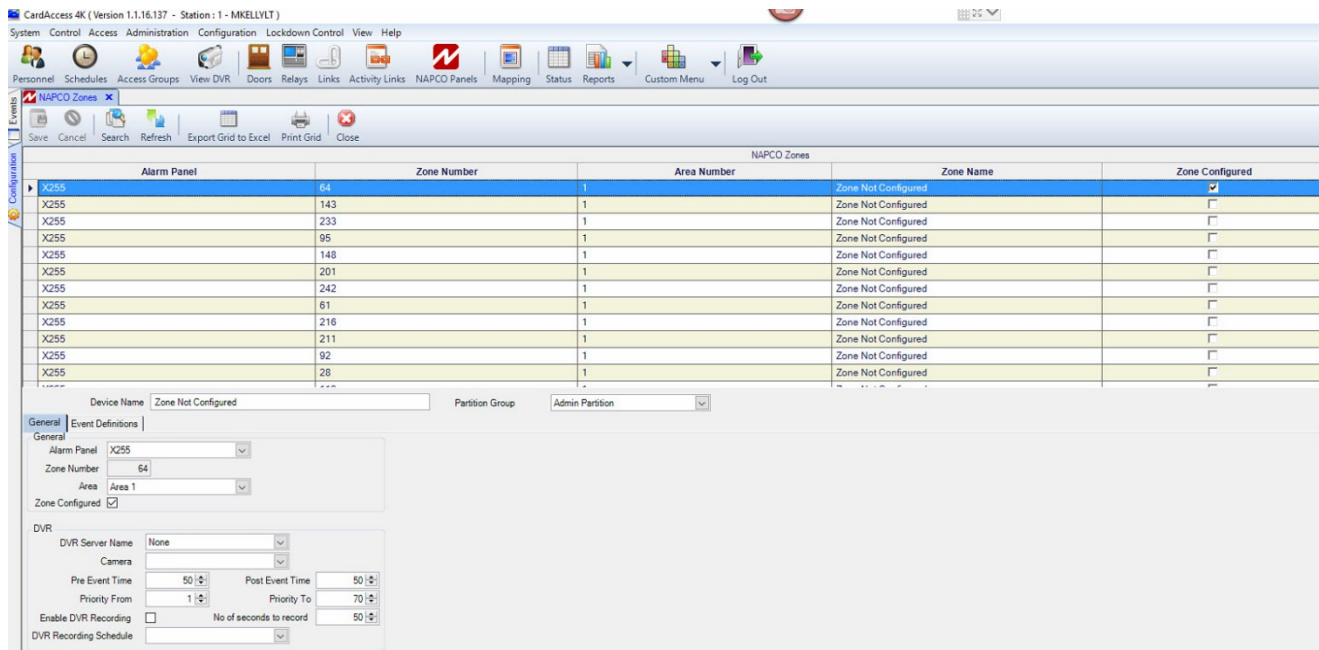

Figure 10.
6. Configure the **Napco Zones** screen (General tab) as follows (refer to Figure 10).